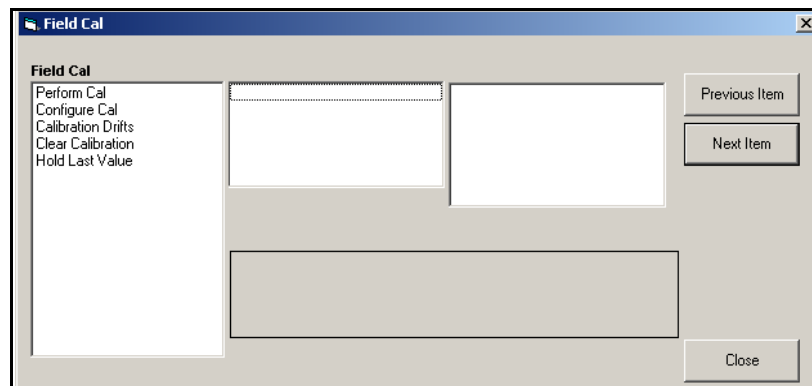

Figure 85: *Field Cal* Window
- To open a particular menu, double-click on that menu on the tree. For example, if you double-click on the *Field Cal* menu, a window opens similar to *Figure 85* below.